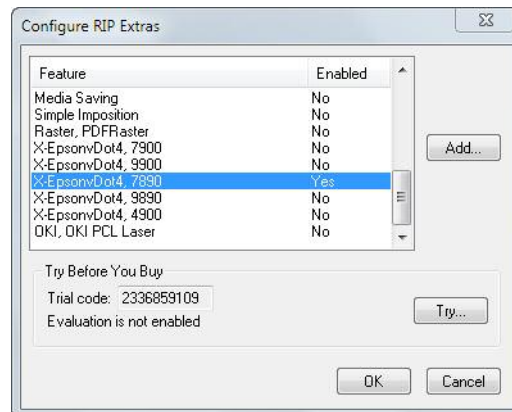

Figure 4 Configure RIP Extras dialog
1. Select Harlequin RIP > Configure RIP > Extras, to open the Configure RIP Extras dialog (Figure 4).